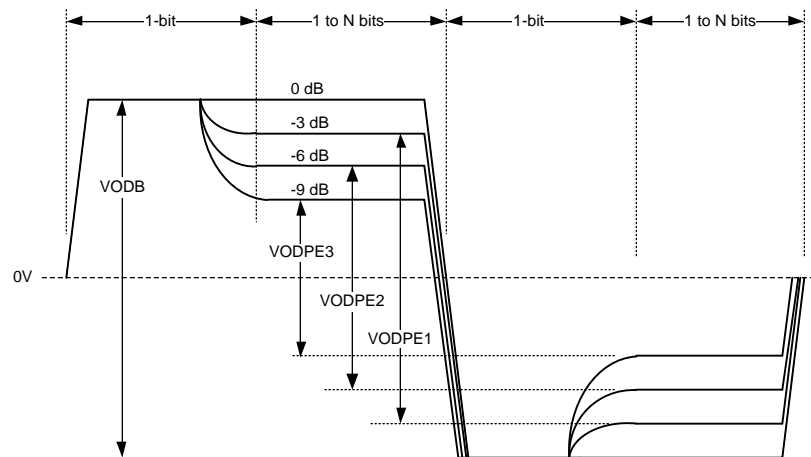
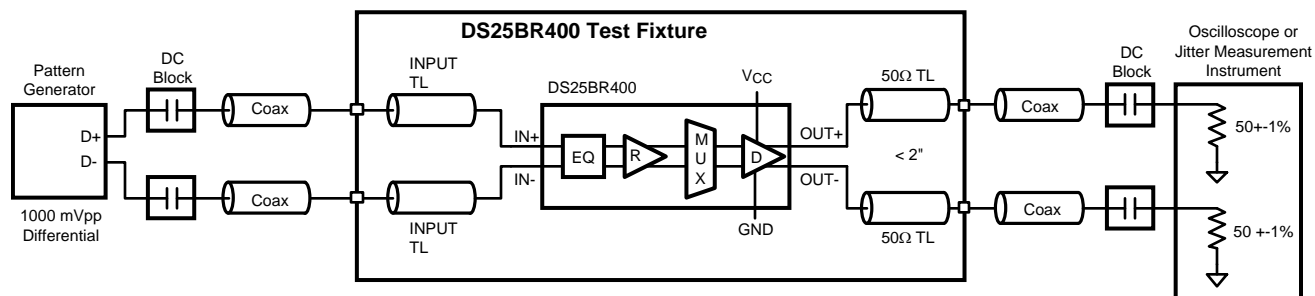

Figure 2. Driver De-Emphasis Differential Waveform (showing all 4 de-emphasis steps)
Figure 7. AC Test Circuit
De-emphasis is the conditioning function for use in compensating against backplane transmission loss. The DS25BR400 provides four steps of de-emphasis ranging from 0, -3, -6 and -9 dB, user-selectable dependent on the loss profile of the backplane. Figure 2 shows a driver de-emphasis waveform. The de-emphasis duration is nominal 200 ps, corresponding to 50% bit-width at 2.5 Gbps. The de-emphasis levels of switch-side and line-side can be individually programmed.
| V_{ODB} | Output Differential Voltage Swing without De-Emphasis | $R_L = 100\Omega \pm 1\%$ PreA_1 = 0; PreA_0 = 0 PreB_1 = 0; PreB_0 = 0 Driver de-emphasis disabled. Running K28.7 pattern at 2.5 Gbps. (Figure 7) | 1000 | 1200 | 1400 mV _{P-P} |
| V_{PE} | Output De-Emphasis Voltage Ratio $20 \cdot \log(V_{ODPE}/V_{ODB})$ | $R_L = 100\Omega \pm 1\%$ Running K28.7 pattern at 2.5 Gbps PreX_[1:0] = 00 PreX_[1:0] = 01 PreX_[1:0] = 10 PreX_[1:0] = 11 X = A/B channel de-emphasis drivers (Figure 2 / Figure 7) | | 0 -3 -6 -9 | dB dB dB dB |
| t_R | Differential Low to High Transition Time | Measured with a clock-like pattern at 2.5 Gbps, between 20% and 80% of the differential output voltage. De-emphasis disabled. Transition time is measured with the fixture shown in Figure 7 adjusted to reflect the transition time at the output pins. | | 80 | | ps |
| RJ | Device Random Jitter ⁽⁶⁾ | At 0.25 Gbps At 1.5 Gbps At 2.5 Gbps Alternating-10 pattern. De-emphasis disabled. (Figure 7) | | | 2 2 2 | ps rms ps rms ps rms |
| DJ | Device Deterministic Jitter ⁽⁷⁾ | At 0.25 Mbps, PRBS7 pattern At 1.5 Gbps, K28.5 pattern At 2.5 Gbps, K28.5 pattern At 2.5 Gbps, PRBS7 pattern De-emphasis disabled. (Figure 7) | | | 25 25 25 25 | ps pp ps pp ps pp ps pp |
(4) All CML Inputs and Outputs must be AC coupled for optimal jitter performance.
(5) t_{SKO} is the magnitude difference in propagation delays between all data paths on one device. This is channel-to-channel skew. t_{SKPP} is the worst case difference in propagation delay across multiple devices on all channels and operating under identical conditions. For example, for two devices operating under the same conditions, t_{SKPP} is the magnitude difference between the shortest propagation delay measurement on one device to the longest propagation delay measurement on another device.
(6) Device output random jitter is a measurement of random jitter contributed by the device. It is derived by the equation $\sqrt{RJ_{OUT}^2 - (RJ_{IN})^2}$, where RJ_{OUT} is the total random jitter measured at the output of the device in ps(rms), RJ_{IN} is the random jitter of the pattern generator driving the device. Below 400 Mbps, system jitter and device jitter could not be separated. The 250 Mbps specification includes system random jitter. Please see Figure 7 for the AC test circuit.
(7) Device output deterministic jitter is a measurement of the deterministic jitter contribution from the device. It is derived by the equation $(DJ_{OUT} - DJ_{IN})$, where DJ_{OUT} is the total peak-to-peak deterministic jitter measured at the output of the device in ps(p-p). DJ_{IN} is the peak-to-peak deterministic jitter at the input of the test board. Please see Figure 7 for the AC test circuit.
(8) This parameter is guaranteed by design and/or characterization and is not tested in production.